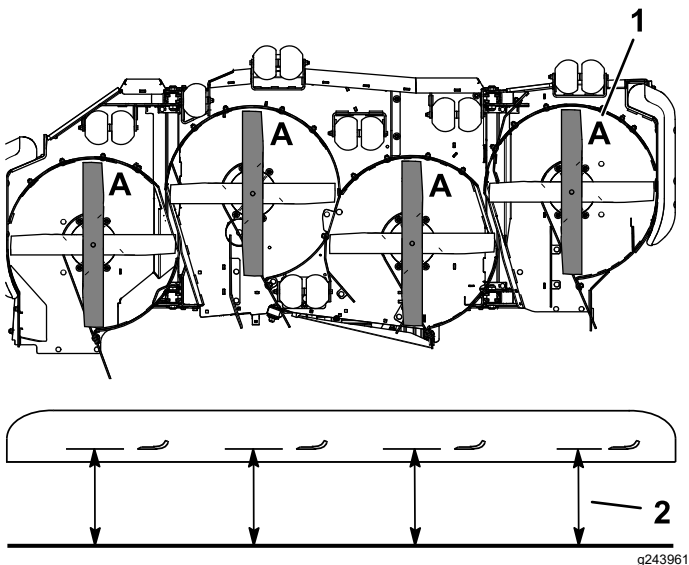

Figure 71
3. Rotate the blades until the ends face forward and backward (Figure 71).
4. Measure from a level surface to the cutting edge, position A, of the blades (Figure 71).